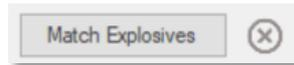

Figure 392 - Match explosive.
- Click the **"Match Explosives"** button (Figure 392) to align the charge information with changes made in the app.